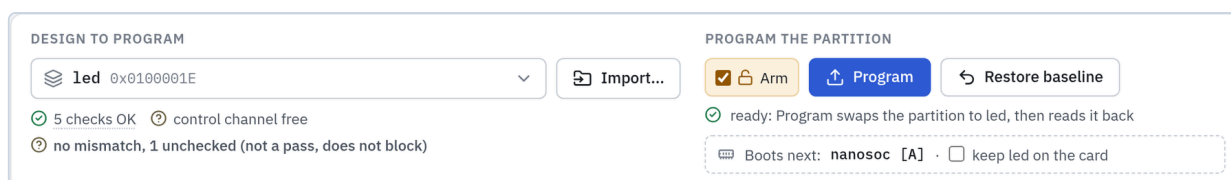

Figure 10.1. Ready to load `led`: the preflight passed, **Arm** is ticked. From the demo.
- 2 **Load `led`.** Open the **Workbench**. In **Design to program**, pick `led`. Harness Manager runs a *preflight* at once, which checks that the design fits this harness, and shows the result under the picker: **6 checks OK**, then one chip per check. The picker also tags some designs, for example **loaded now** and **baseline** beside `greybox`. Tick **Arm**, then click **Program** (Figure 10.1). About 35 seconds.